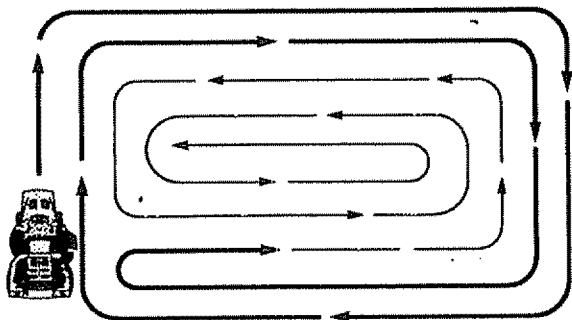

FIGURE 9
- When mowing large areas (Fig. 9), start by turning to the right so that the clippings will discharge away from shrubs, fences, driveways, etc. After two or three rounds, mow in the opposite direction making left hand turns until finished.